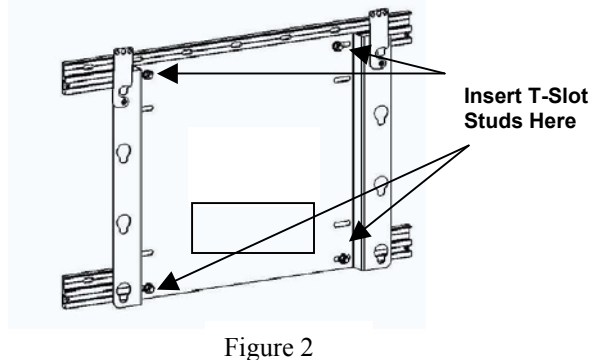

Figure 2
4. Connect lateral shift extrusions to the plasma static wall mount by inserting the T-slot studs into holes and secure using four flat washers, four lock washers, and four hex nuts (Figure 2).
1. Using two 10-24 x .5 FH undercut screws, Nylon washers between safety latch and mount, and 10-24 Nylock nuts, install safety latches in the inner holes loose enough to move but tight enough to remain in place when raised (see Figure 2).